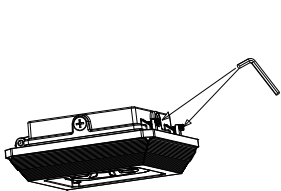

Figure 2-1
1. Disassemble the driver box cover by loosening the two screws on the driver box; Figure 2-1